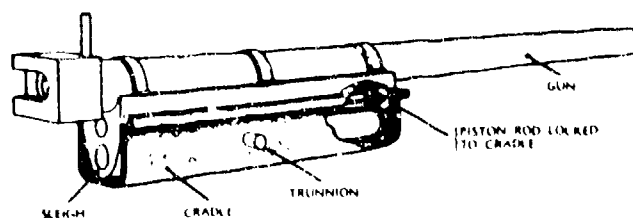

Figure 2-11. Sleigh and cradle.
j. *Cradle.* The cradle (fig 2-11) is that part of the carriage that supports the tube and sleigh. If the weapon is not equipped with a sleigh, the cradle houses the tube and the recoil mechanism. In general, the cradle is a U-shaped trough with slides or rails along which certain weapon components recoil and counterrecoil. If a sleigh is used, the cradle provides a means of securing the recoil piston rod or rods. If a sleigh is not used, the cradle provides mountings for the recoil cylinders. *The trunnions of the cradle furnish an axis about which the tipping parts rotate in elevation.* The trunnions rest in trunnion bearings on the carriage. The elevating mechanism is coupled to the cradle by means of the elevating arc, which normally is fastened to the bottom or side of the cradle. The cradle supports the recoiling parts and moves in elevation with them.
k. *Sleigh.* The sleigh (fig 2-11) is that part of the carriage that provides the immediate support for the tube. In some weapons, the sleigh houses the recoil mechanism and recoils with the tube on the cradle. In some cases, the recoil cylinders are bored directly into the sleigh; in others, the cylinders are separate tubes that are rigidly attached to the sleigh. The tube is firmly secured to the sleigh, which slides on the cradle in recoil and counterrecoil.